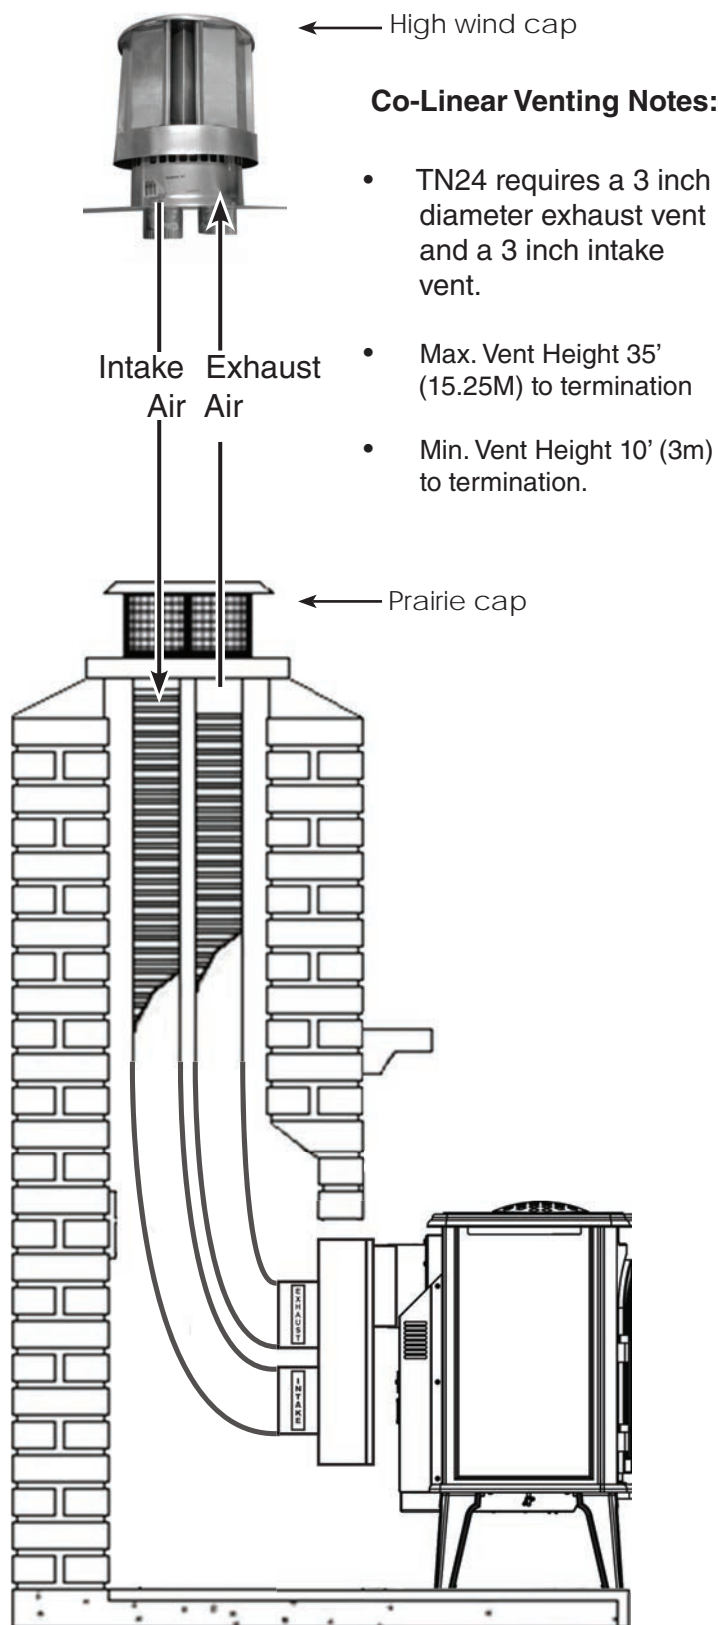

Figure 27: Trenton co-linear venting configuration.
1. sealing up the existing fireplace opening with a cover or other material, leaving room in the cover or other material to accommodate the adapter so that it is positioned flush (Figure 27) with the cover or other material.